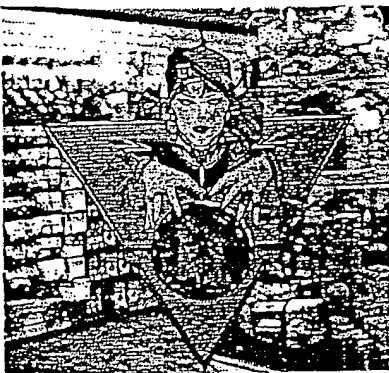

Figure 47
**13. Design window signs to enhance the character of the business (Figure 47).**